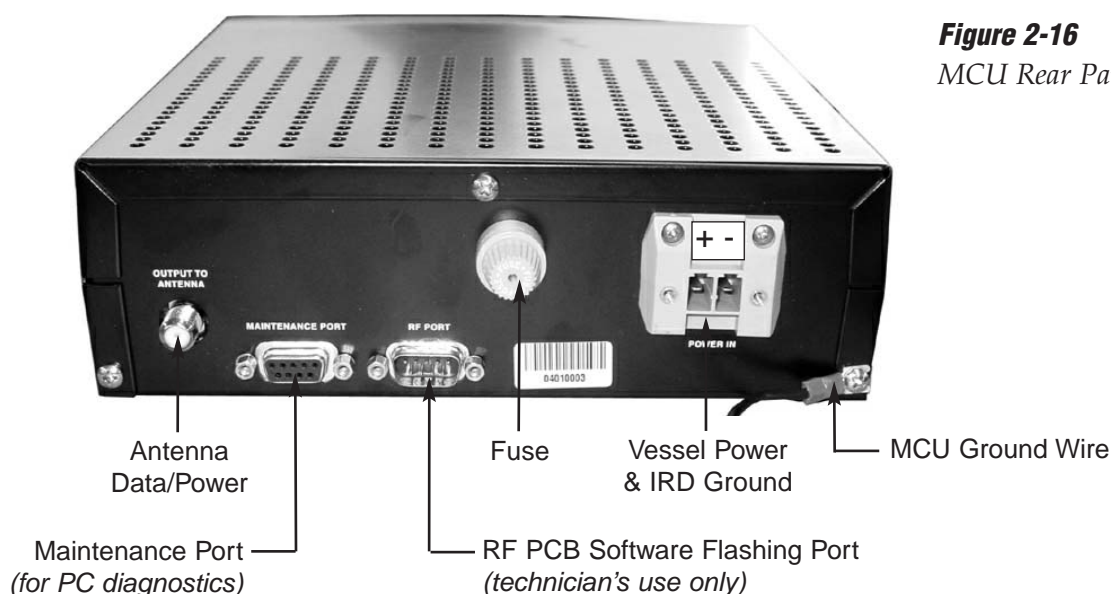

Figure 2-16
Figure 2-16 shows the MCU's rear panel connectors. Refer to this figure when wiring components to the MCU.
Connect the antenna data/power cable to the data/power connector on the MCU's rear panel (see Figure 2-16). Do not overtighten; finger-tight is sufficient.
6. Plug the power connector plug into the power jack on the MCU's rear panel (see Figure 2-16 on page 35).